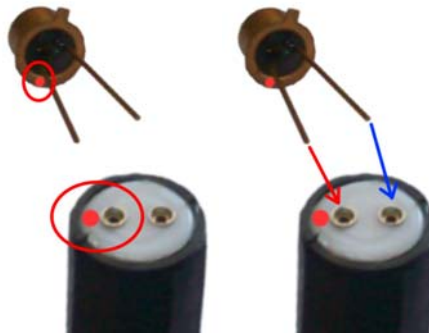

Fig.2. Observance of polarity during the connection between the PD and the PD connector (1).
1. Please take a PD. Carefully combine its wires with pins of connector “PD” (1) tightly till fixation (fig.2).
Note! Marked with the red point pin of connector “PD” must be connected with the appropriate wire of the PD (fig.2). In the case of wrong junction the PD can be damaged.